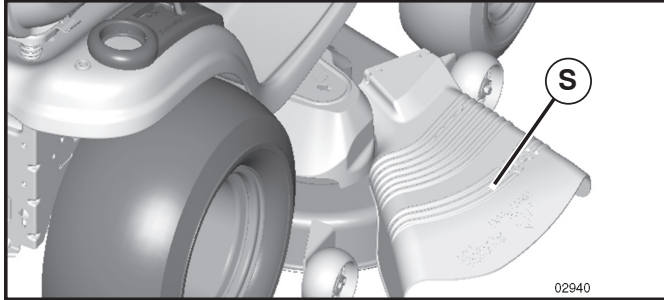

FIG. 10
CAUTION: Do not operate the mower without either the entire grass catcher, on mowers so equipped, or the deflector shield (S) in place. (See Fig. 10)